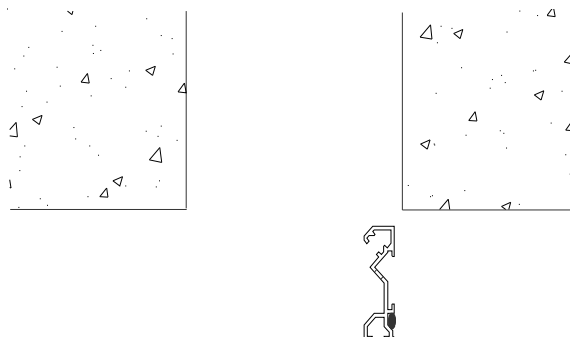

Figure 4
STEP 8. Select the base member. If the installation is exterior, place a continuous bead of silicone sealant onto the back side of the base member (see Figure 4).